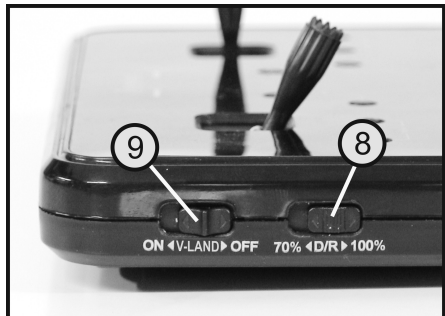

Figure 25
- 8 Dual rate switch (see also Figure 25)